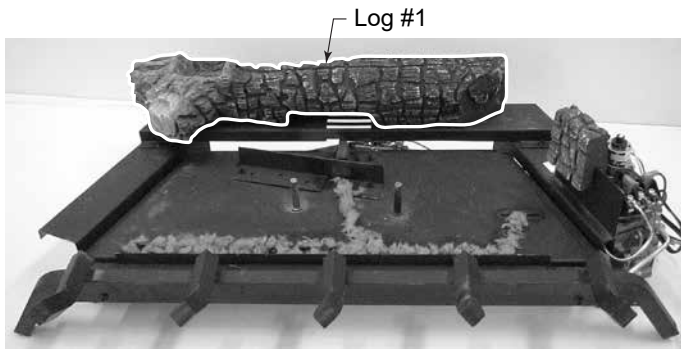

Figure 6.4 - Log #1 Placement
2. Place log #1 over the two pins located on the rear log bracket. Figure 6.4.